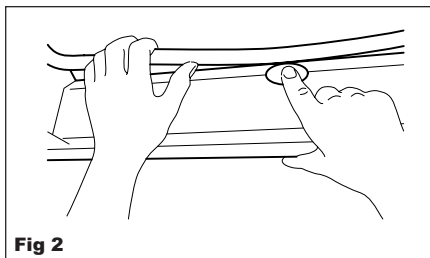

Fig 2
- (i) To open, push the large central button (Fig 2).